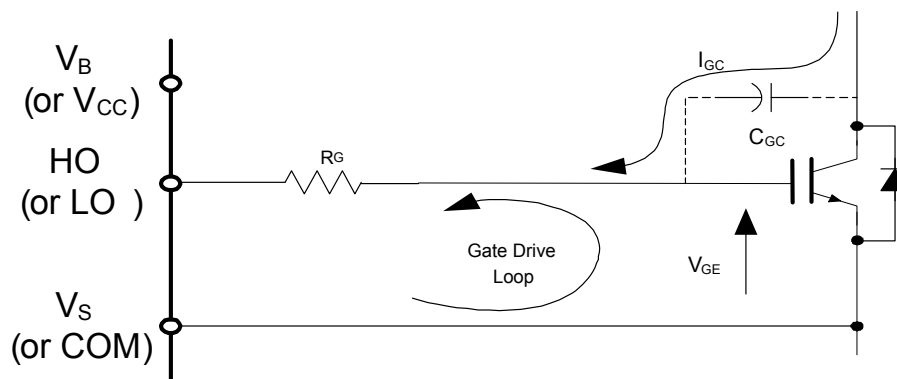

Figure 20: Antenna Loops
**Gate Drive Loops:** Current loops behave like antennas and are able to receive and transmit EM noise (see Figure 20). In order to reduce the EM coupling and improve the power switch turn on/off performance, the gate drive loops must be reduced as much as possible. Moreover, current can be injected inside the gate drive loop via the IGBT collector-to-gate parasitic capacitance. The parasitic auto-inductance of the gate loop contributes to developing a voltage across the gate-emitter, thus increasing the possibility of a self turn-on effect.